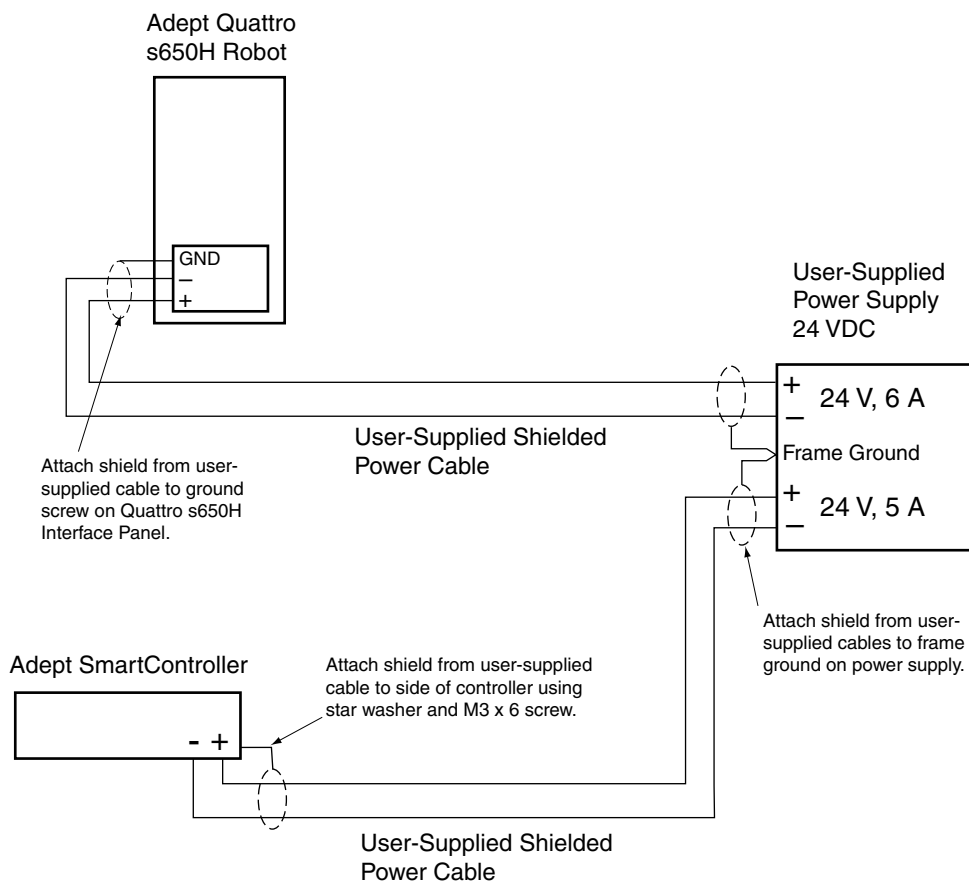

Figure 4-3. User-Supplied 24 VDC Cable
Shield Termination	Braided shield connected to '-' terminal at both ends of cable. See Figure 4-3 on page 56 .
1. Connect one end of the shielded 24 VDC cable to your user-supplied 24 VDC power supply. See Figure 4-3.